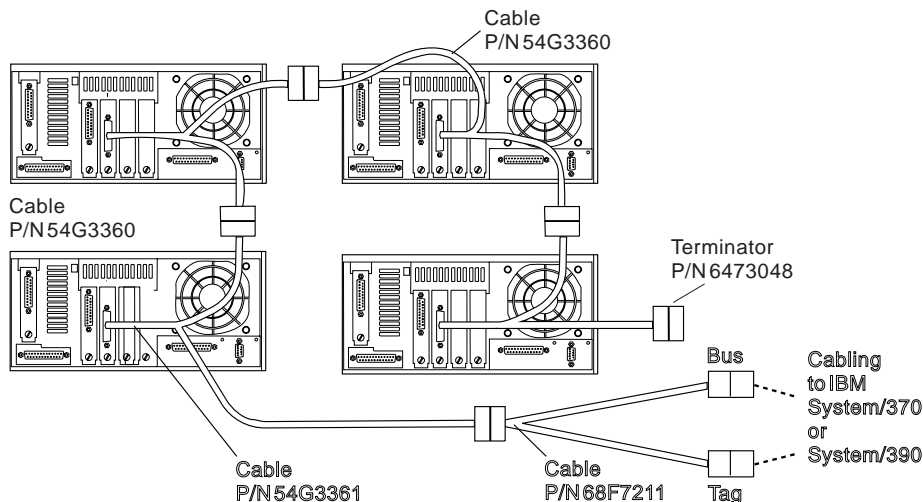

Figure C-10. BMCA Cabling to a Multiple Processor Nodes
1. Determine which processor node will be the first in the string and then connect cable part number 54G3361 to the BMCA adapter card in that node as shown in Figure C-10 on page C-19.